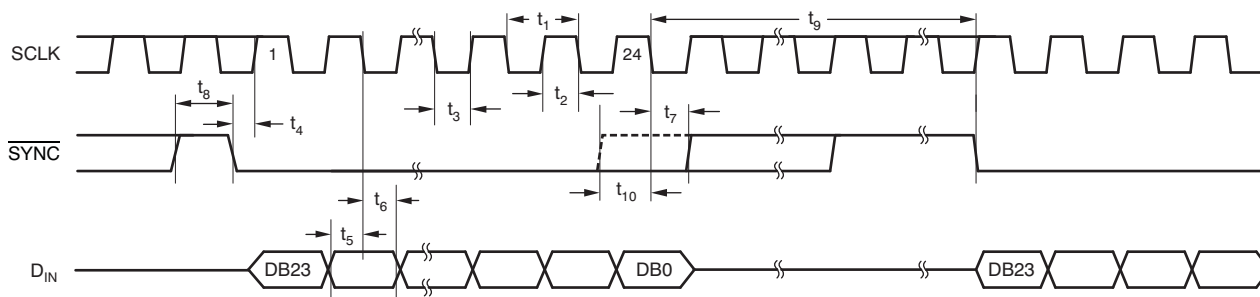

Figure 1. Serial Write Operation
- (1) All input signals are specified with t_R = t_F = 3 ns (10% to 90% of V_{DD}) and timed from a voltage level of (V_{IL} + V_{IH}) / 2.
- (2) See Figure 1.
- (3) Maximum SCLK frequency is 3 0MHz at V_{DD} = 3.6 V to 5.5 V and 20 MHz at V_{DD} = 2.7 V to 3.6 V.